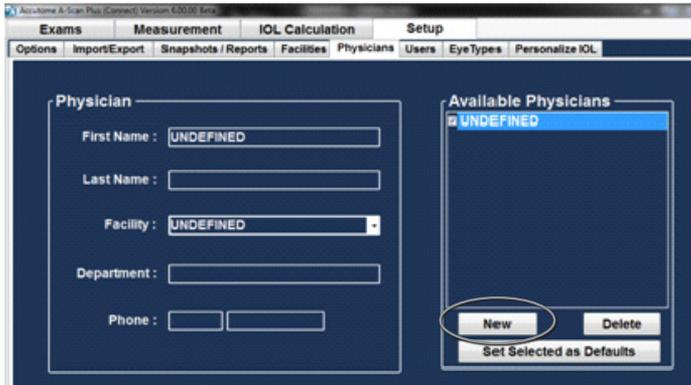

Figure 5-33 Physicians Screen
1. In the Physicians screen select “New” as shown in Figure 5.33 below.